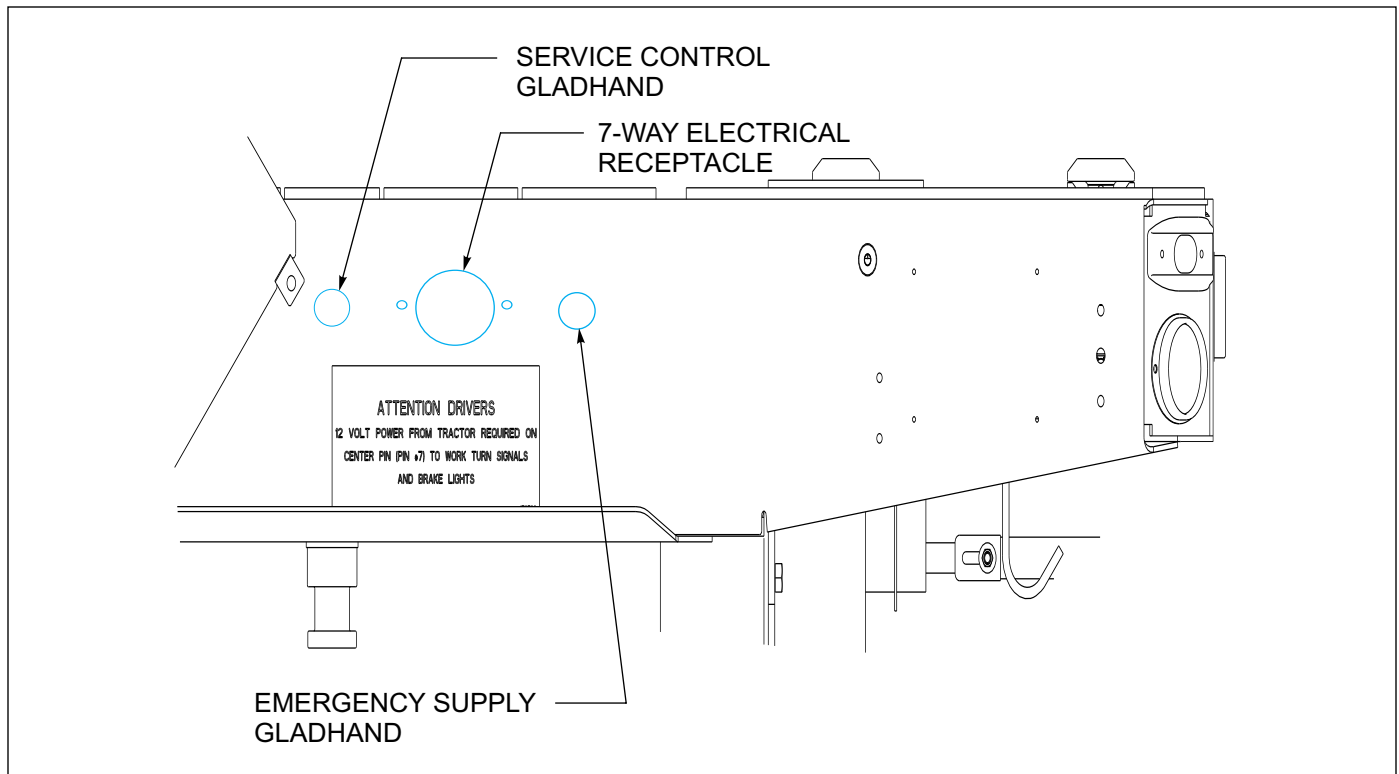

Figure 3-3: Coupling of the Tractor to the Semitrailer
2. Check the semitrailer king pin plate. It should be in a horizontal position. Use the landing gear to raise or lower the kingpin plate sufficiently to set proper coupling height (**See Figure 3-3.**) Drain all air and moisture from the towing vehicle air brake system following towing vehicle manufacturer's instructions.
3. Connect the service and emergency air hoses of the towing vehicle to their respective gladhand on the front of the semitrailer; red emergency line to the gladhand with the "**EMERGENCY**" tag, and the blue service line to the gladhand with the "**SERVICE**" tag (**See Figure 3-3.**) Chock the semitrailer wheels before activating the semitrailer air supply valve in the towing vehicle. Set the parking brakes.
Connect the towing vehicle 12 volt 7-pin electrical plug to the electrical receptacle on the front of the semitrailer (See Figure 3-3.)